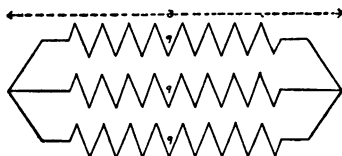

FIG. 230.—WIRES JOINED IN
*series*. Now if both ends of three wires are joined together (Fig. 230), each wire will carry its separate current, and we get as a result the same effect as would be secured by increasing the size of the wire. This method is called joining in *multiple* or *parallel*, and results in a combined resistance less than that of any one of the separate conductors.
Solving:  $6 = 3R_x + 2R_x$      $6 = 5R_x$      $R_x = 1\frac{1}{5}$  ohms. If the separate resistances are equal, then the solution of the problem becomes quite simple; as the combined resistance becomes equal to that of a single one divided by the number joined in parallel. (See Fig. 230.)